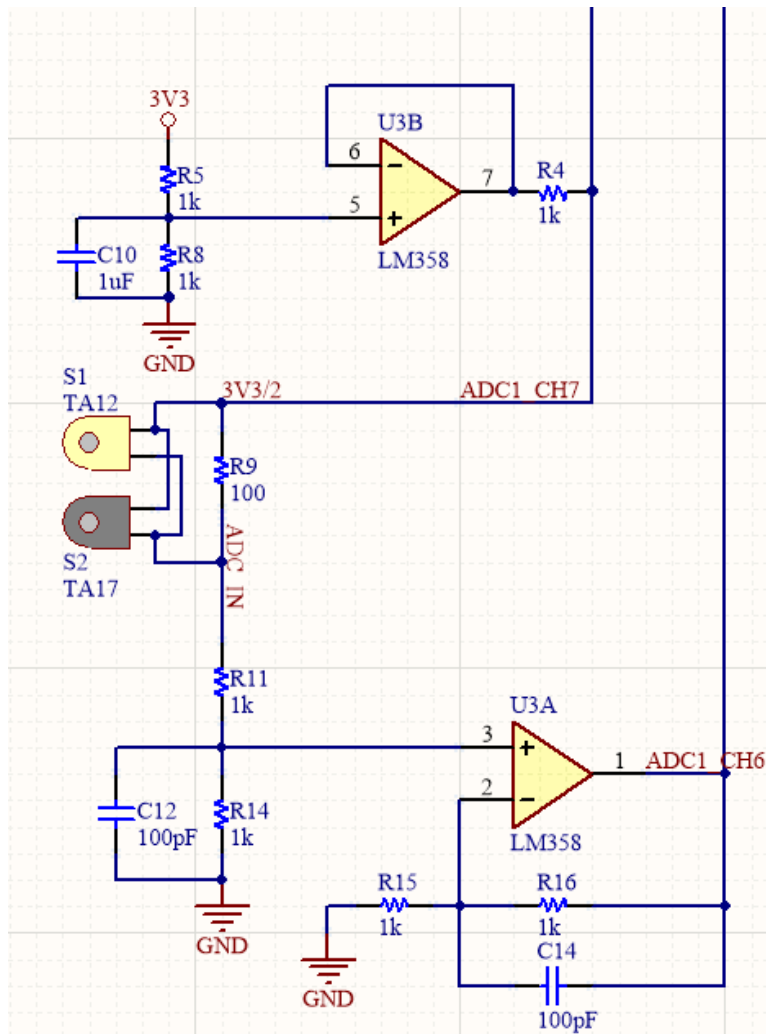

Figure 1.5: ADC Input
In this sensor part, we use two opamps which are packed in one IC LM358. IC LM358 includes two opamps. We use one to create a reference voltage, while we connect the second opamp with two current sensor TA12 and TA17 as shown in Figure 1.5.
- [3] In Figure 1.5, what is the voltage of ADC1_CH7? of ADC1_CH6?
- [4] In Figure 1.5, we apply a low pass filter to the signal ADC_IN. What is the cutoff frequency of this low pass filter? If we want to set a cutoff frequency is about 10kHz, what should we change in the circuit of U3A?